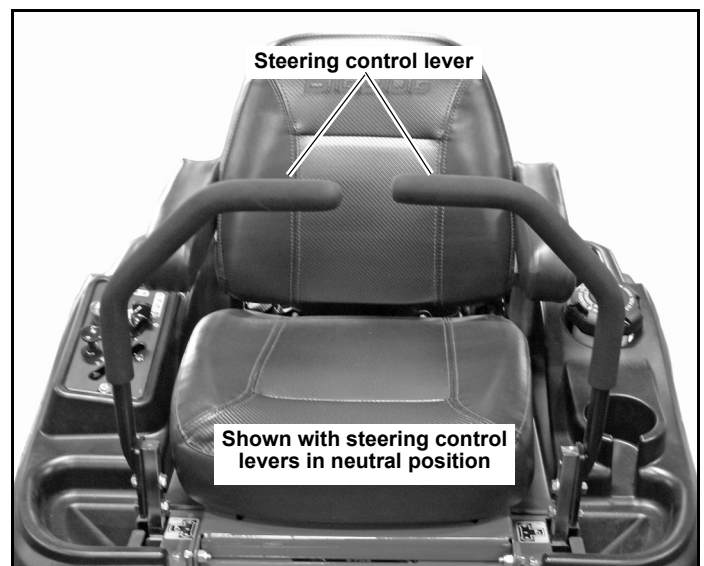
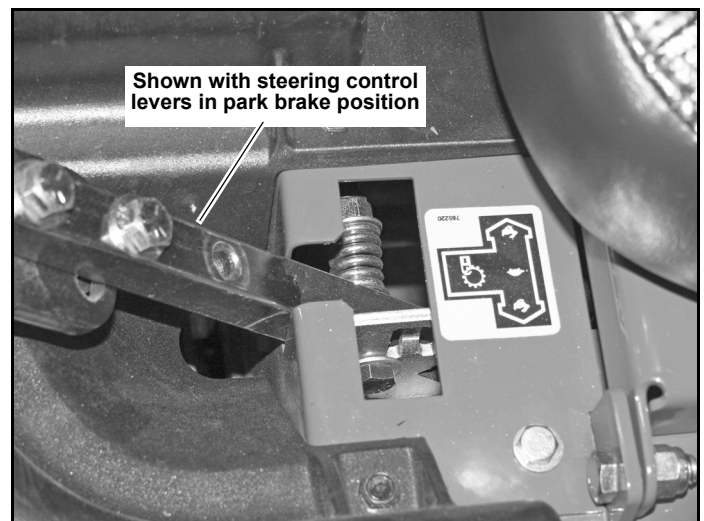

Figure 3-2
Figure 3-3
- A. **Steering control levers (Figure 3-2 & Figure 3-3)** — these levers control the mower’s speed, direction, stopping, and park brake. These levers are used to steer, accelerate, decelerate and change direction. When the